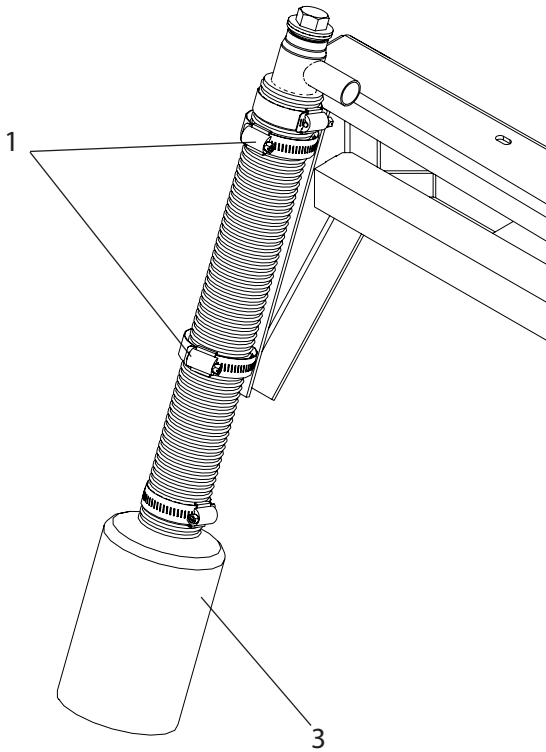
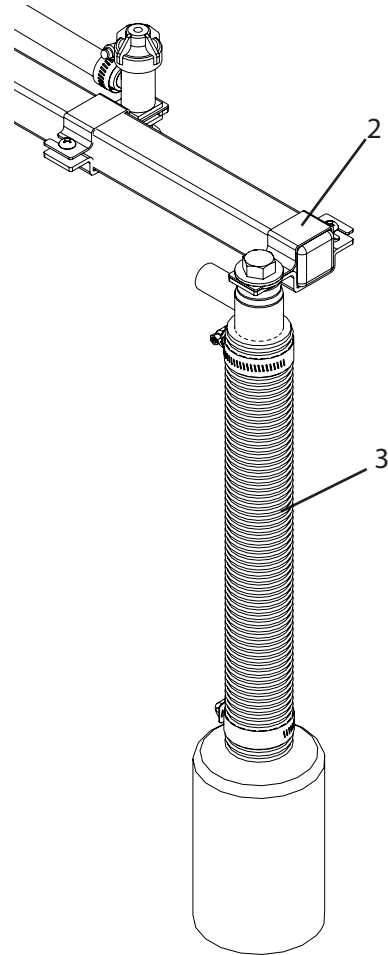

Figure 1
Figure 2
- Mount the foam marker drop tubes onto the wings. On 45' hydraulic X-folding booms the drop tube is clamped to the wing (Figure 1). On other booms the drop tube uses a clamp (Items 2) to be fastened to the boom wing (Figure 2). The drop tube should be fastened onto either the front or back side of the boom as needed to avoid nozzle spray or lap nozzle mounting.